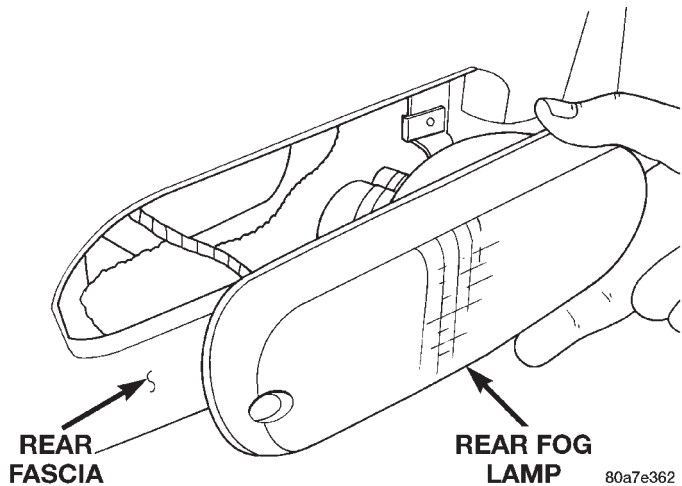
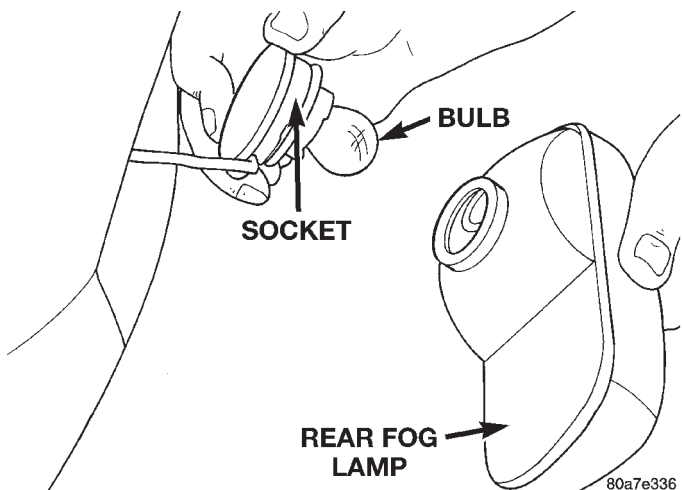

Fig. 8 Rear Fog Lamp
Fig. 9 Rear Fog Lamp Bulb
- (1) Remove screws holding rear fog lamp to rear bumper fascia.
- (2) Separate rear fog lamp from rear bumper fascia (Fig. 8).
- (3) Rotate rear fog lamp socket counterclockwise one quarter turn.
- (4) Pull socket from rear fog lamp (Fig. 9).
- (5) Twist and pull bulb from socket.